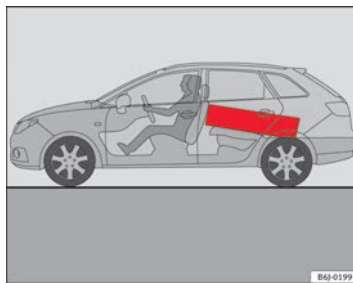

Fig. 93 Position heavy items as far forward as possible.
- Position heavy items as far forward as possible ⇒ fig. 93.